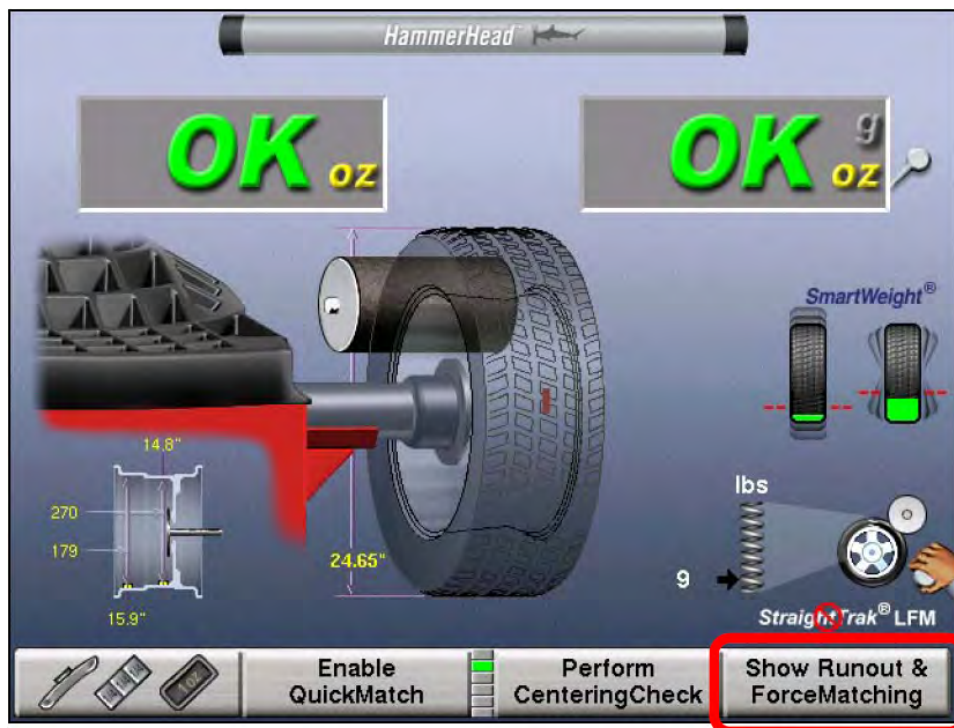

Figure 1
- a. Using the menu shift key, navigate to and select "Show Runout & ForceMatching" (see Figure 1).